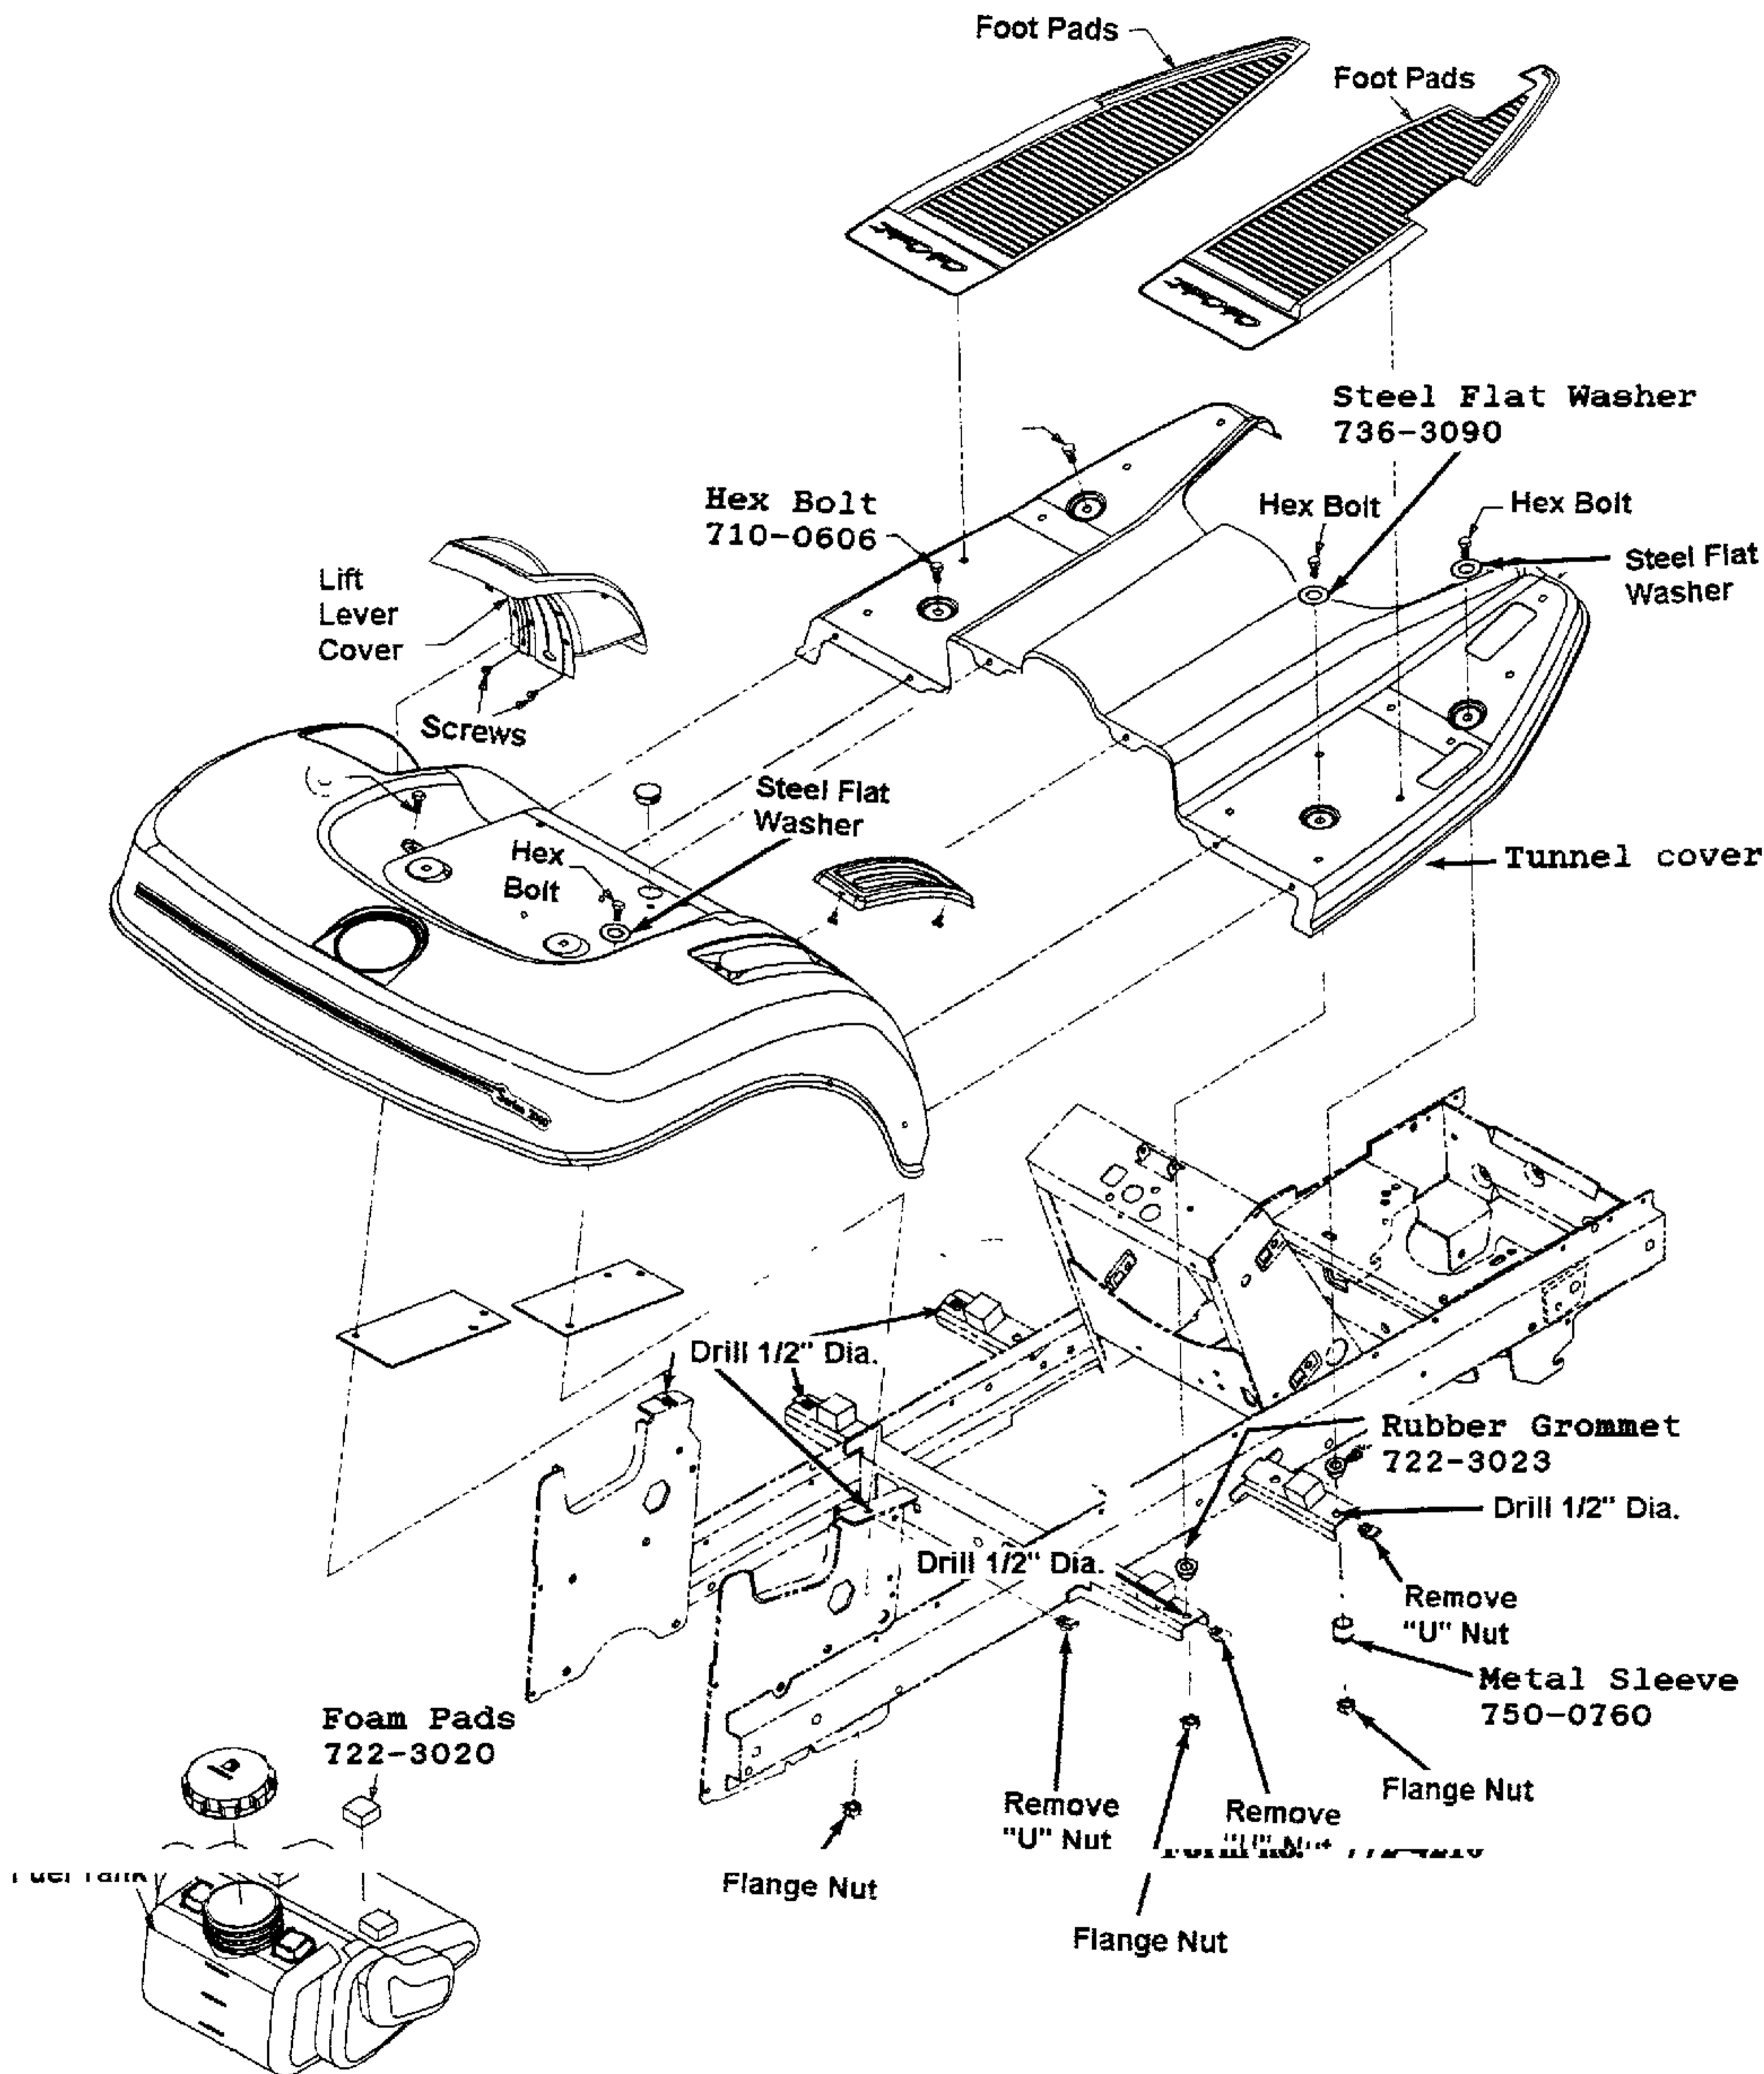

fig. 1
- 3) Apply the five foam pads (part no. 722-3020) to the top of the fuel tank as shown in fig. 1. NOTE: Make sure the fuel tank is free from dirt or grease before applying foam pads.**
- 4) Using a drill with 1/2 inch bit, drill out the outside hole on each footrest support and the two holes at top of seat supports. See fig. 1. NOTE: Remove the foam pads from each footrest support along with the six "U" nuts.**